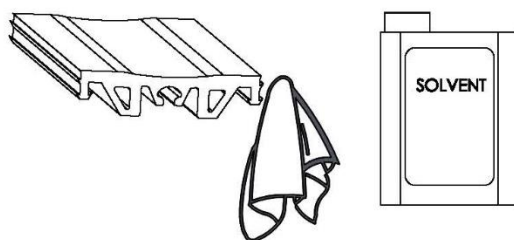

Figure 2
2. Position the elastomeric seal into position and push the seal bulbs into the extrusion channels as shown. Make sure you hold the “T” grid securely and seat the bulbs all the way into the channel (stagger seams, as necessary). **See Figure 2**
2. Using a solvent (by others) that is safe for elastomeric materials clean the ends of the seals. **See Figure 2**